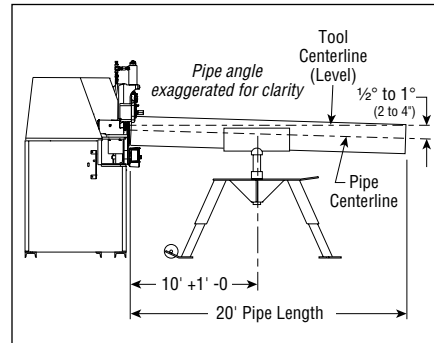

Figure 2
Figure 2 below shows the Victaulic adjustable pipe stand (VAPS 112). VAPS 112 is suitable for ¾" to 12" pipe. Also available is Victaulic model VAPS 224 suitable for sizes 2" to 24". See Accessories on page 33.
1. Position pipe and pipe stand in accordance with Figures 2 and 3.
Failure to position pipe and pipe stand in accordance with Figures 2 and 3 (shown above) may result in serious personal injury or property damage.